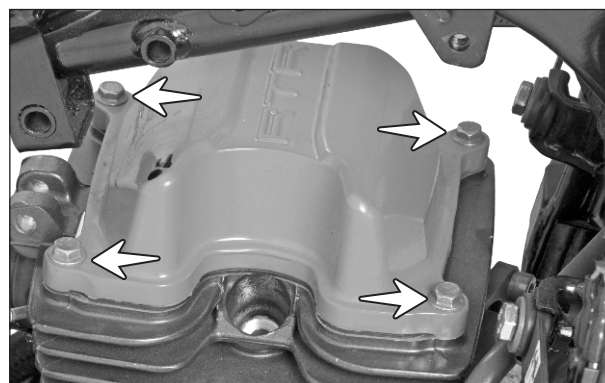

Fig. 2.52
- Remove the hexagonal bolt (M6x25 - 4 nos.) from the mounting of cover cylinder head. (Fig. 2.52)